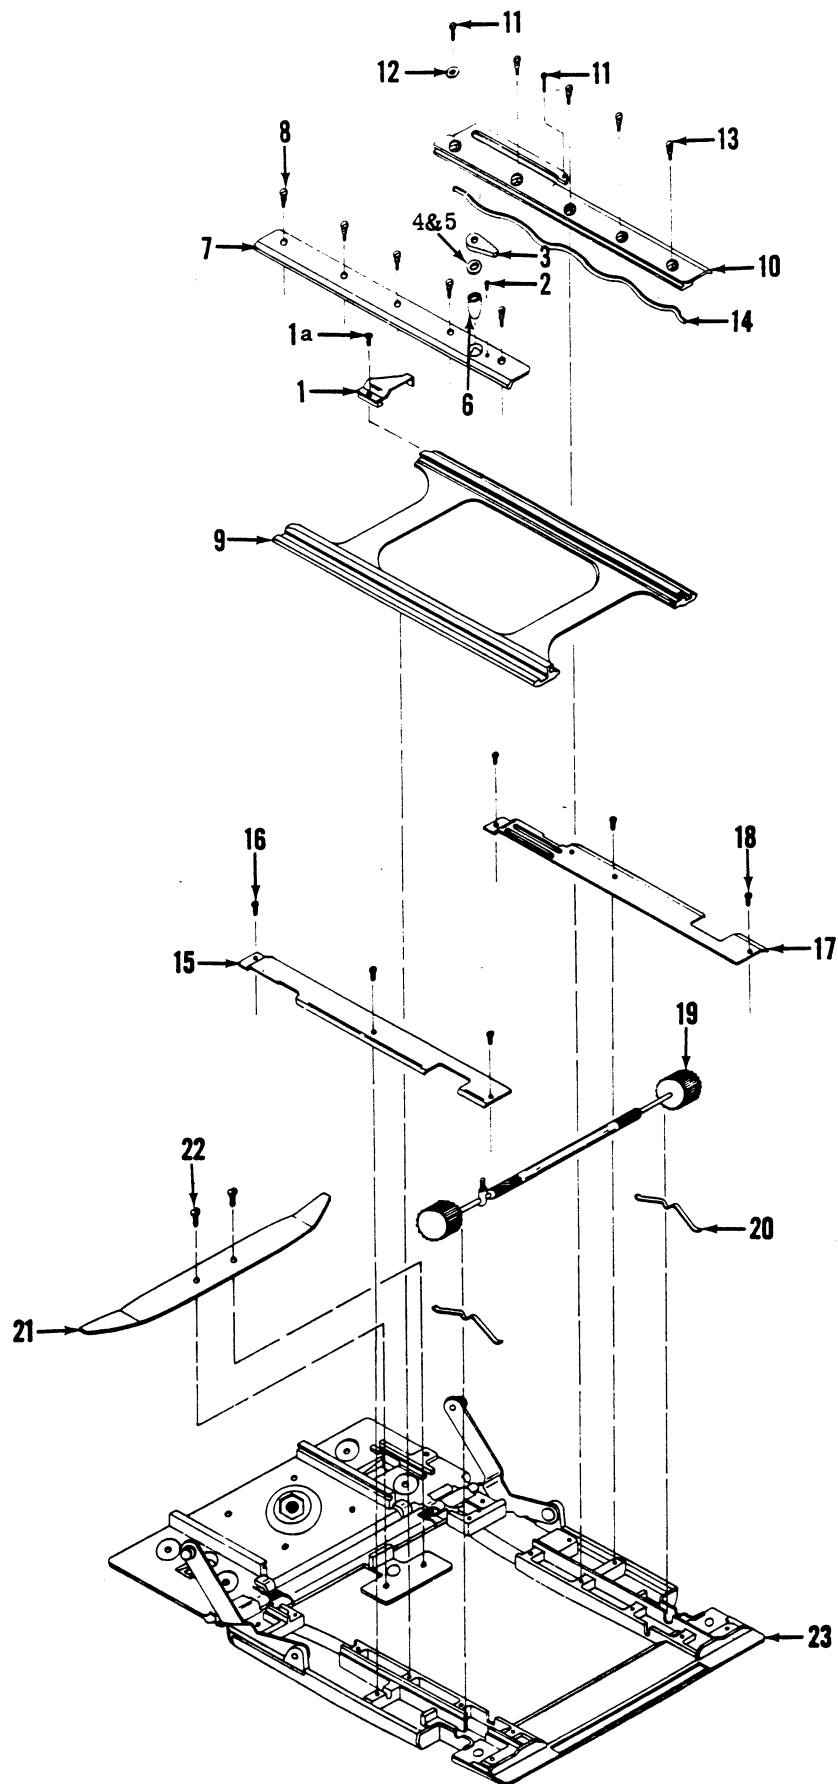

Figure 11. BED COMPLETE
W. BED COMPLETE - DISASSEMBLY AND REASSEMBLY (Figure 11)
a. Remove rangefinder actuating bracket assembly (1) by removing one machine screw (1a). The machine screw is part of the rangefinder actuating bracket assembly.